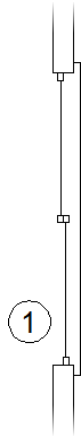

FIGURE 9.72: The first door symbol placed by the front door
6. With the A-ANNO-TABL layer current, draw a circle with a radius of 6" (175).
11. Set the height to 6" (175) and the rotation angle to 0.
13. Move the symbol near the front door, as shown in Figure 9.72, and then copy it to locations near the other three doors.